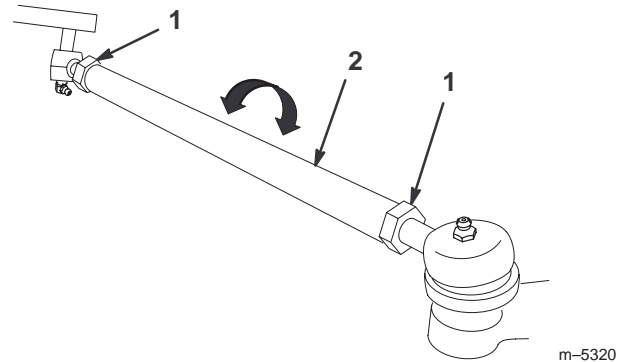

Figure 28
3. If the measurement is greater than 1/4 in. (6.4 mm), loosen the jam nuts at both ends of the tie rods (Fig. 28).